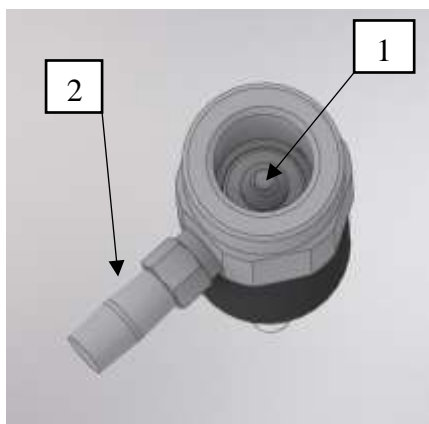

Fig.47: Cutting Nozzle Holder
5. Retract Cutting Nozzle (Fig. 47/1). This normally sits loose in a boring of the mixing chamber. After extraction thoroughly clean all parts
6. Check Mixing Chamber for wear and tear. This can be done by loosening the Abrasive feed (Fig47/2) from the side with an 8mm Spanner